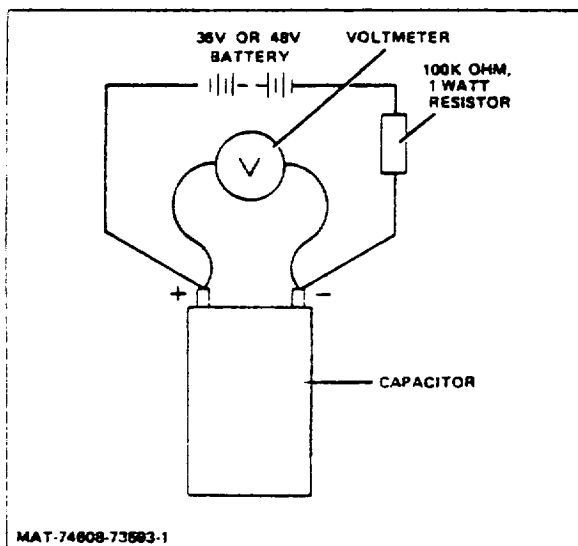

Figure 3-10. Charging the Capacitor
- (1) Connect a fully charged test battery or lift truck battery, a 100 K ohm resistor in series, and a voltmeter to the capacitor (Fig 3-10), but do not connect the negative lead to the battery.
- (2) Use a watch with a sweep second hand to time the period of charging. Connect the negative lead to the battery and begin timing. After 15 seconds, the capacitor voltage should be 22 or 30 volts ($\pm 20\%$) as indicated in the following chart.